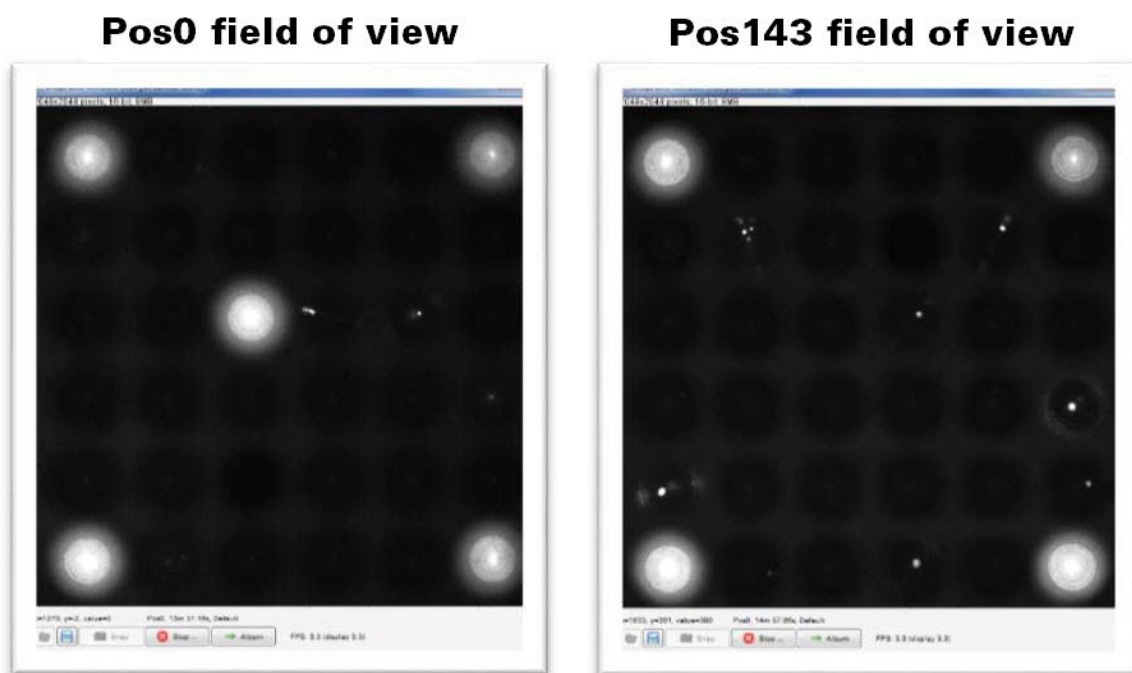

Figure 21. Multiwell images including fiducial-containing nanowells.
13. Confirm that five fiducial-containing wells are present, forming an “X” shape at Pos0 (Figure 21). There are four fields of view across an entire chip that include fiducial-containing nanowells (Pos0, Pos11, Pos132, and Pos143). Each field of view includes 36 nanowells (a 6 x 6 grid).
14. Select “Pos143” in the *Stage Position List* window and confirm that all 36 nanowells are properly captured in the image. There will be four fiducial-containing nanowells in the shape of a square, as shown in Figure 21 (above). Pos143 is located at the lower right corner of the stage fixture.